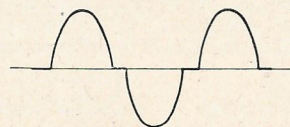

FIG. 6—CROSSOVER DISTORTION.
3. The base to emitter voltage on the Class B output transistor should be 0.1 to 0.17 volts. Low voltage will give what is termed "Crossover Distortion" and is most noticeable on low volume (see Fig. 6). If the bias voltage cannot be measured accurately check the collector currents in the output stage. These should be between 1 and 2.5 mA for each transistor. Note that the thermistor is temperature sensitive and if heated should be allowed to cool to room temperature before making bias measurements.